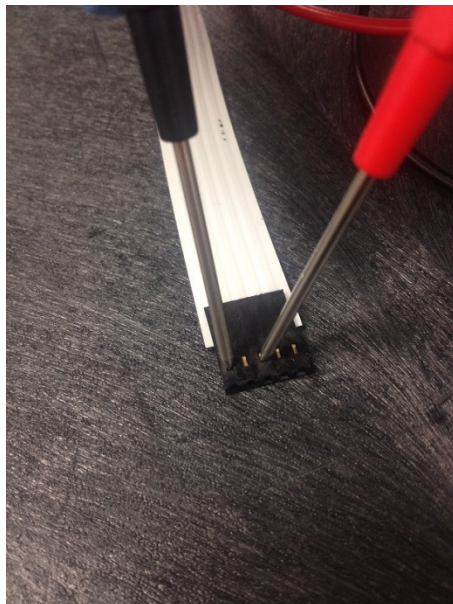

Figure 2 – Probe Testing
- Place one probe of the ohmmeter directly against the exposed middle pin (pin 3) on the cable connector and the other directly against any of the other exposed pins (pin 1, 2, 4 or 5) on the cable connector (see Figure 2 below). If using a patch cable (with pin 3 and any other pin connected to each terminal), simply plug the cable into the connector.